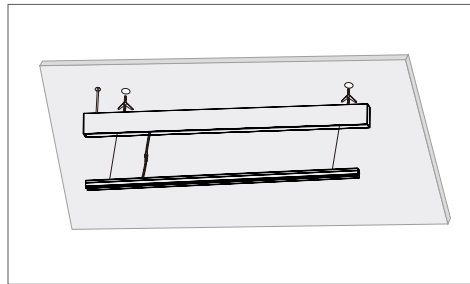

FIGURE 5-4
5) Secure the housing to the ceiling using the butterfly drywall anchor "A". (Figure 5-4)
6) Press LED module into housing. (Figure 5-4)